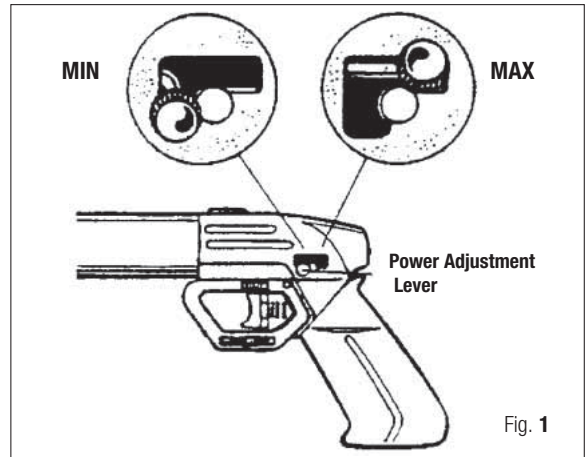

Fig. 1
1. Screw the open end of the high pressure hose into the high pressure port of a first stage regulator (Fig 1).
ALWAYS PRESSURIZE THE SPEARGUN WITH THE POWER ADJUSTMENT LEVER IN THE MAXIMUM "HIGH" POWER POSITION (FIG. 1). NEVER EXCEED THE MAXIMUM 30 BAR PRESSURE. FAILURE TO PRESSURIZE THE SPEARGUN IN THE MAXIMUM "HIGH" POWER POSITION OR OVER-PRESSURIZATION MAY CAUSE THE SPEARGUN TO RUPTURE WHICH MAY CAUSE SERIOUS INJURY OR DEATH.
ALWAYS EXHAUST ALL AIR FROM THE SPEARGUN WITH THE POWER ADJUSTMENT LEVER IN THE MAXIMUM "HIGH" POWER POSITION BEFORE PERFORMING ANY MAINTENANCE OR REPAIRS REQUIRING DISASSEMBLY (FIG. 1). FAILURE TO EXHAUST ALL AIR FROM THE SPEARGUN IN THE MAXIMUM "HIGH" POWER POSITION CAN CAUSE PARTS TO BE EXPELLED FROM THE SPEARGUN AT HIGH VELOCITY WHICH MAY CAUSE SERIOUS INJURY OR DEATH.
3. Set the power adjustment lever (38) to maximum "high" power position (Fig. 1).